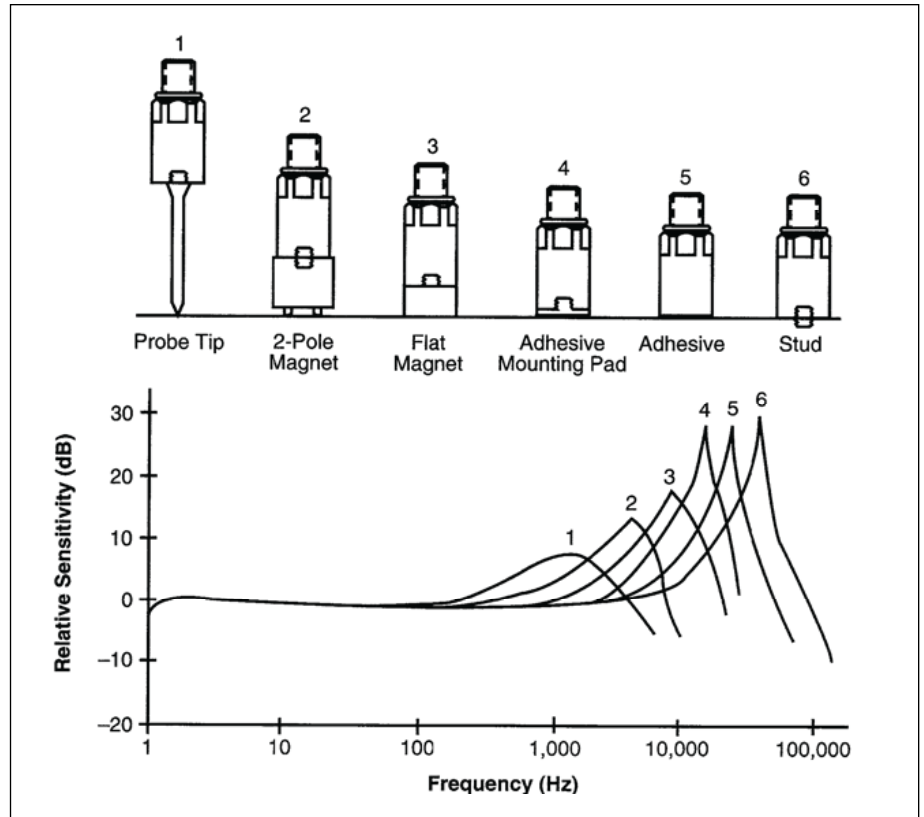

Figure 7 | Six options for sensor mounting and the relative sensitivity of each. (Courtesy of Wilcoxin Research)
1. Use a grease gun-equipped sensor for zerk mounting (not shown in Figure 7)
Each of these has drawbacks and benefits. Figure 7 shows six options for sensor attachment and comparison of the expected high frequency response for each. The option that provides the most secure and repeatable data collection is the stud-mount and locking sensor configuration (option 6). Each of the permanent mount options provides better sensitivity to the high frequency range than the more convenient, portable methods (probe and magnet mounts).
Figure 7 also shows the clear signal response advantages of stud-mounted data collection. Although it is a superior approach, the stud-mounted or even permanent adhesive mounting sensor configurations significantly increase the cost of measurement.
1. **Poor collection methods (looseness between the grease gun and the zerk fitting).** According to Figure 7, under similar conditions the difference between a contact-probe mounted and stud-mounted configurations can account for significant differences in decibel readings. This is due to the inherent and unavoidable looseness present in non-stud mount methods.